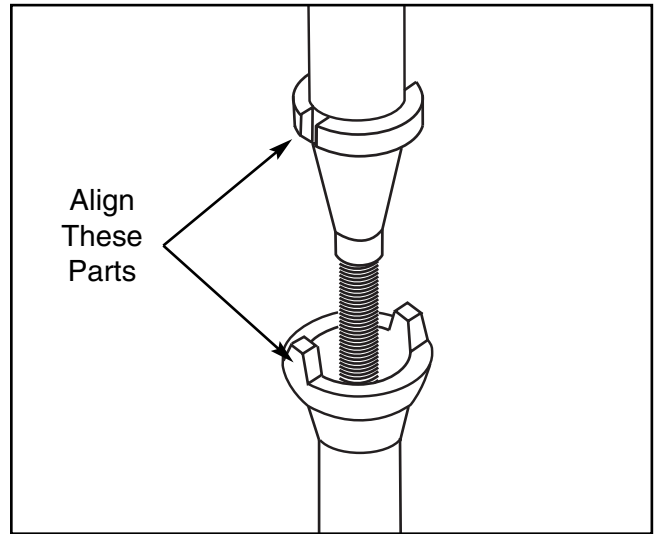

Figure 6. Installing spindle into the cartridge.
3. Drop the spindle/drawbar into the spindle cartridge at the top of the table. Line up the keyway on the spindle with the locating pin at the top of the spindle cartridge. You will feel the spindle seat itself. See **Figure 6**.